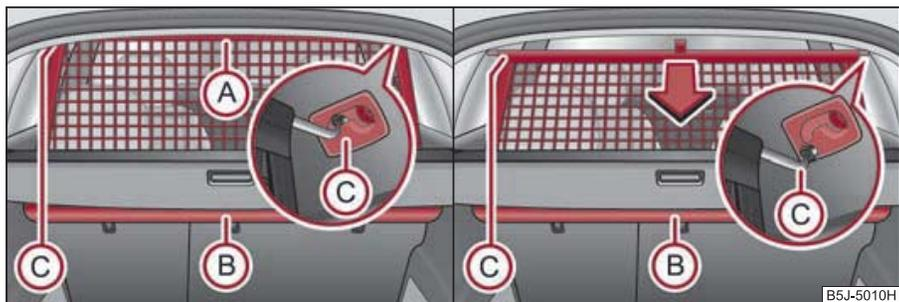

Fig. 66 Pull out the rear bulkhead/roll up
- Pull the rear bulkhead at the bracket (A) out of the housing (B) in direction of the holders (C) ⇒ fig. 66
- Insert the cross rod into one of the mounts (C).
- Pull the cross rod back slightly, first on the one side then on the other side and take the cross rod out of the mount (C) ⇒ fig. 66.
- **Hold** the cross rod in such a way that the luggage net partition can roll up slowly and without damage into the housing (B).